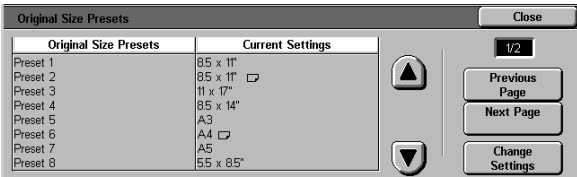

Figure 67: Original Size Presets screen (page 1)
- On the Tools screen, touch the **Original Size Presets** button to display the Original Size Presets screen, as illustrated in Figure 67.